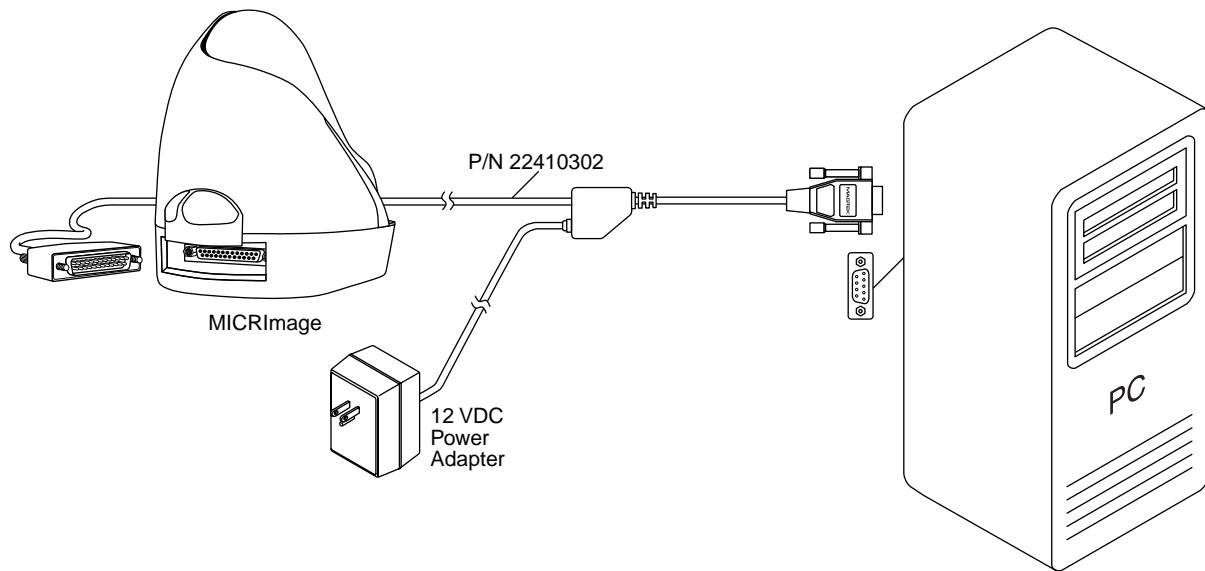

Figure 2-3. Cabling – Single PC
2. Connect the DB9 connector to the PC as shown in Figure 2-3, 2-4, and 2-5.
For a single PC, install the MICRImage cables as shown in Figure 2-3.